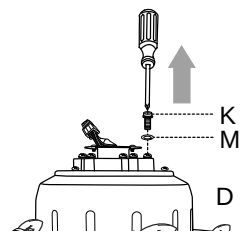

Fig. 5
5. Remove motor screws (K) and lock washers (M) from underside of motor. If necessary, discard plastic. [Fig. 5] Save motor screws and lock washers for later use.